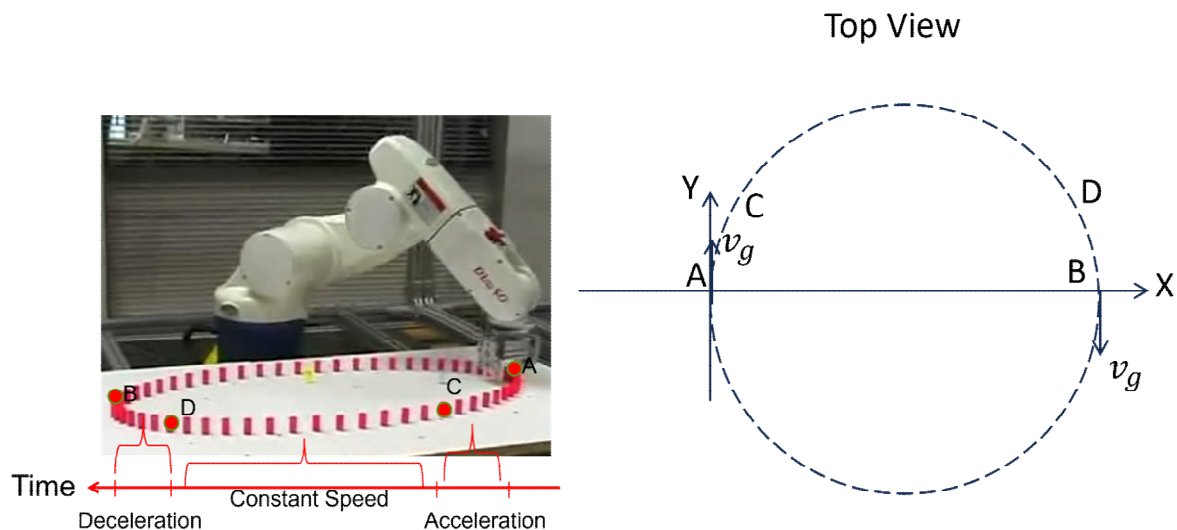

Figure 2
2. A robotic arm is moving its gripper along a circular path/trajectory as shown in Figure 2. The circular path contains points A, C, D, and B. Assume that the coordinates of point A are (0.0, 0.0) (cm) while the coordinates of point B are (30.0, 0.0) (cm). The orientation of gripper at point A is $+90.0^\circ$ while the orientation of gripper at point B is -90.0° . Both orientations are tangential to the circular path/trajectory.